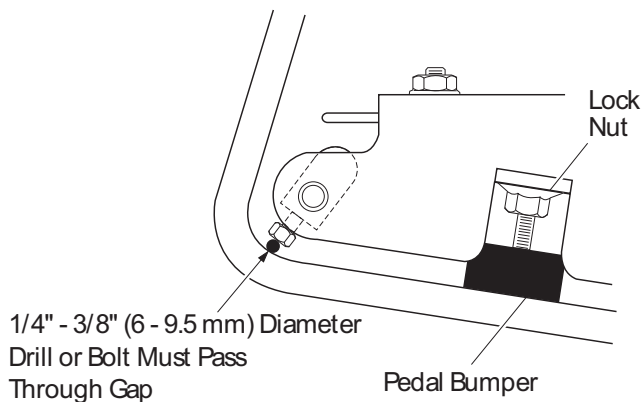

Fig. 30 Pedal Bumper Adjustment
- Loosen the bumper lock nut and adjust the bumper by rotating it (Ref Fig. 30).